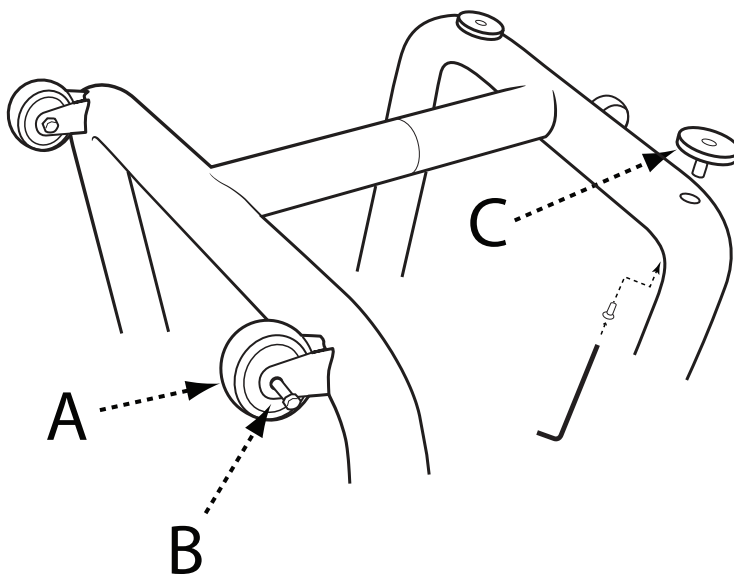
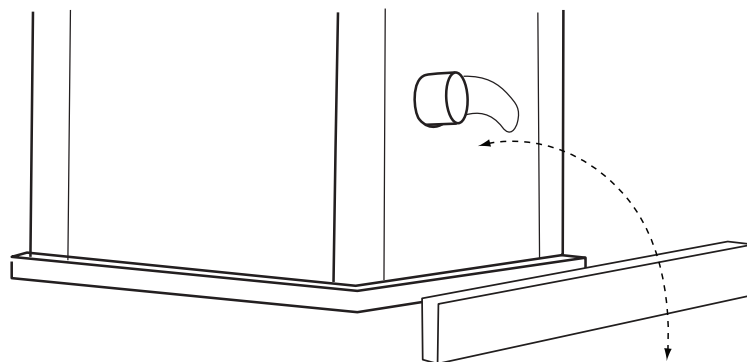

FIGURE 2
FIGURE 3
1. Attach the two fixed wheels (A) to the two left leg, opposite the pivot caster, using the axle pins and nuts as shown. Figure 2.
2. Screw the adjustable feet (C) into the threaded inserts in the right leg, next to the pivot caster.
3. Lay a scrap piece of 2x4 in back of the saw, as shown in Figure 3, to prevent damage to the dust chute when righting the saw.
5. The two adjustable feet (C) can be raised and lowered by rotating them. The feet may be adjusted to level the saw and locked in place with the locking set screws using a 6mm allen hex wrench. See Figure 2.